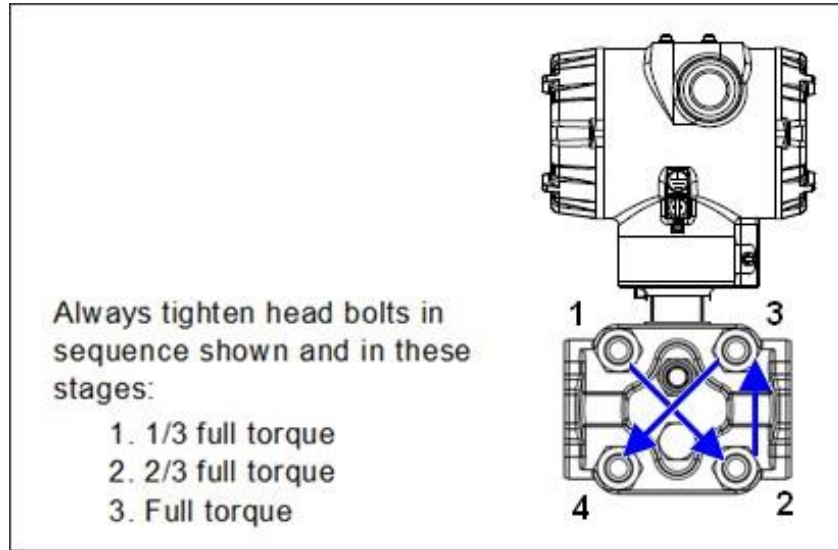

Figure 61 – ST 700 Basic Transmitter - Head Bolt Tightening Sequence
The following procedure comprises the general steps for inspecting and cleaning barrier diaphragms. You may have to modify these steps to meet your particular process or transmitter model requirements. Figure 61 shows an exploded view of a Differential Pressure (DP) transmitter meter body for reference. For disassembly/reassembly purposes, Gauge Pressure (GP) and Absolute Pressure (AP) transmitters are similar.